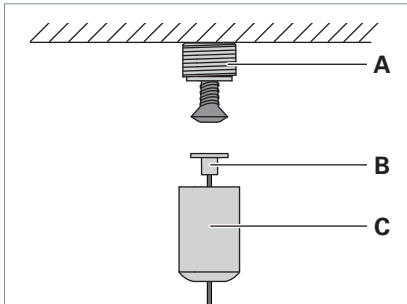

Fig. 10: Mounting the ceiling fixture.
- ▶ Screw the thread **A** to the ceiling at the distance **a** from the previously mounted ceiling fixture using a suitable screw, see Tab. 2 and Fig. 10.